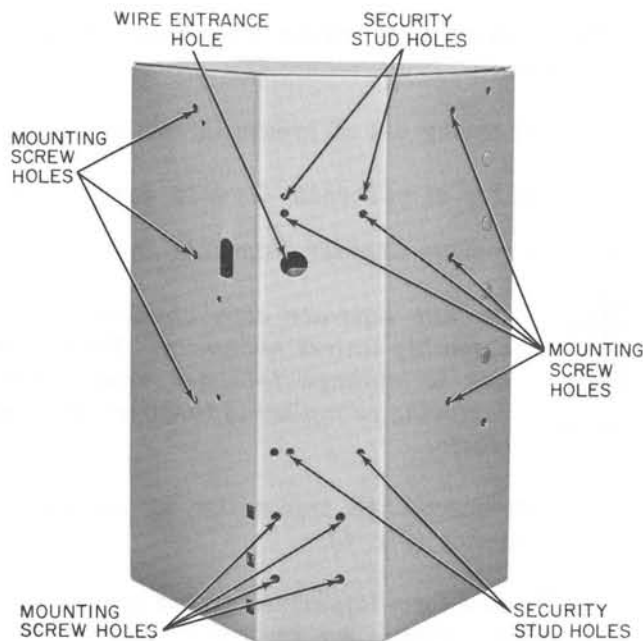

Fig. 2—Location of Mounting Screw and Security Stud Holes
- 2.03** Refer to Fig. 2 for mounting screw and security stud locations in the telephone.